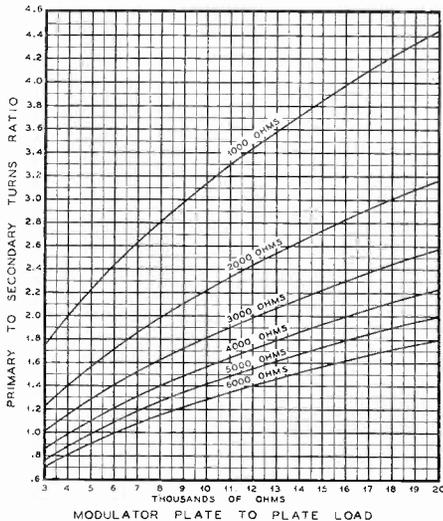

Fig. 1
• By means of the curve, Fig. 1, the ratio of the transformer may be quickly and easily found.